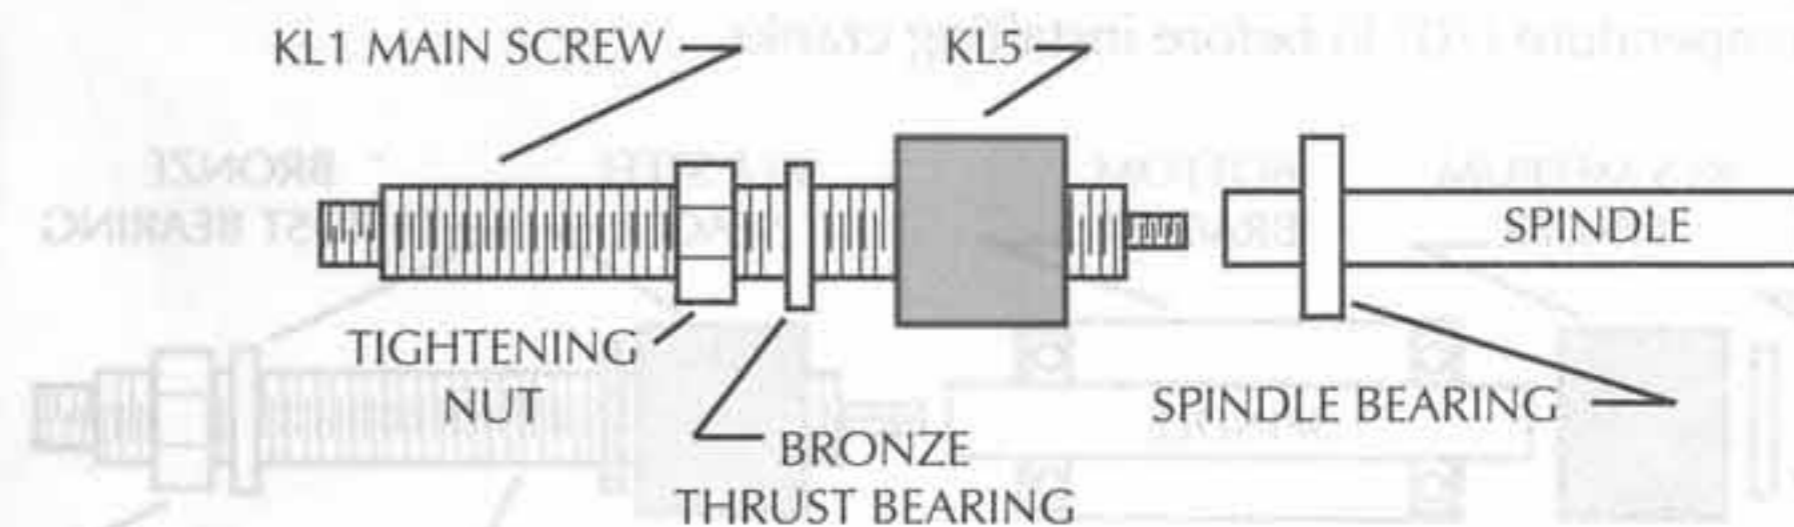

FIGURE 2
3. Installing the non-drive side bearing onto the spindle. First you should know what the non-drive side setting should be (the measurement from the end of the spindle to the outer edge of the bottom bracket shell). Place a thin coat of RC 680 locite on the I.D. of the bearing. Also coat the spindle where the bearing will seat. Slide the bearing onto the spindle. Thread the main screw (KL1) into the spindle. Then place the medium spacer (KL5) and the bronze thrust washer over the main screw (KL1) and thread on the tightening nut. See figure 2.